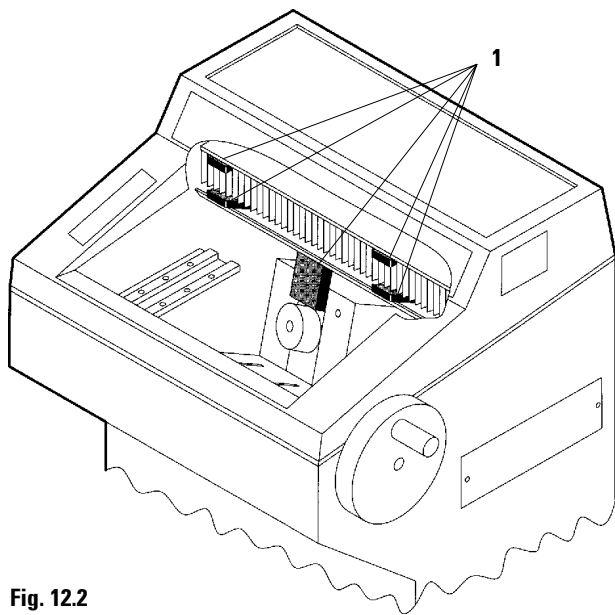

Fig. 12.2
Remove the protective foam parts for the microtome and for the evaporator (1) prior to operating the instrument (see Fig 12.2)!